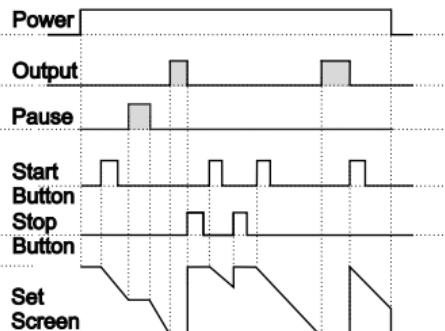

Figure 2.2
2.2.2 If Downcount `dEct`=1 and `outF` is `0FF` the control diagram is shown in Figure 2.2